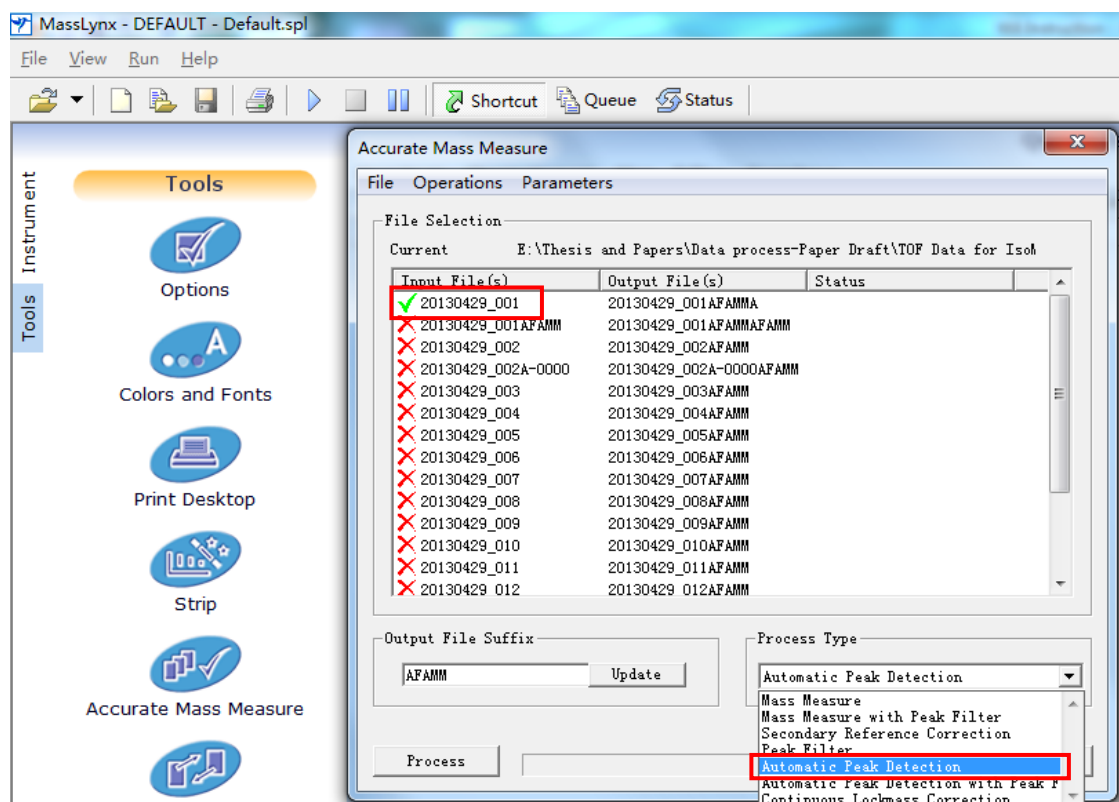

Figure 3. Convert the profile spectrum data into the centroid spectrum data in MassLynx.
3. In the Accurate Mass Measure window, select the raw data to be converted by double clicking the file name (the sign is a green tick) (Figure 3). Choose “Automatic Peak Detection” in the drop-down menu “Process Type”. Finally click “Process”.